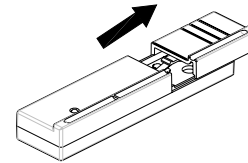

FIGURE 11a
1. Remove the battery cover by sliding off. (FIGURE 11a)